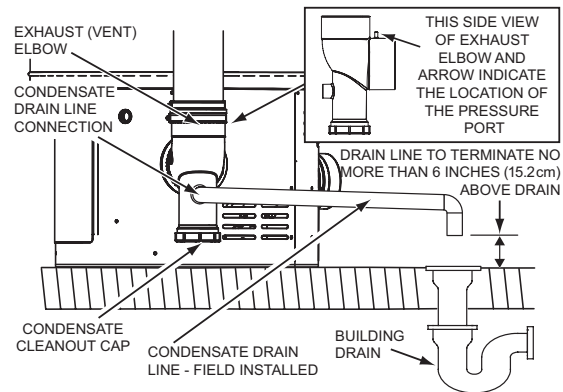

Figure 9
Condensate drains from the water heater at the exhaust elbow located at the bottom. The field installed condensate drain line must not be elevated above the condensate drain connection on the condensate trap, see Figure 9. If the condensate does not drain properly it will build up in the exhaust (vent) elbow. This will restrict the flow of flue gases and cause the Blocked Exhaust pressure switch to open its contacts. The control system monitors all pressure switches, if the Blocked Exhaust Switch contacts are open the control system will lock out and disable heating operation. The "Blocked Exhaust" Fault message will be displayed on the control system's LCD.
**DO NOT** remove the factory installed exhaust/condensate elbow for any reason, see Figure 9. The water heater's vent pipe is under a slight positive pressure while unit is in operation. The water trap inside of the exhaust/condensate elbow prevents flue gases from escaping into the installed space.